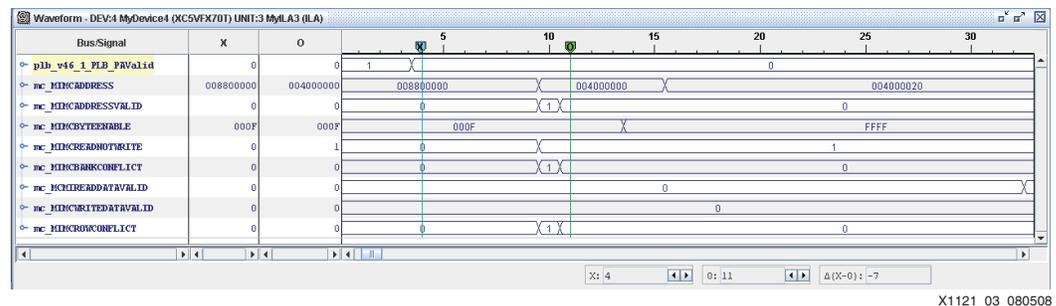

Figure 3: ChipScope MIB Latency
9. In the ChipScope project, select the Waveform for UNIT:3 MyILA3 (MCI). The system will display the waveform shown in Figure 3..